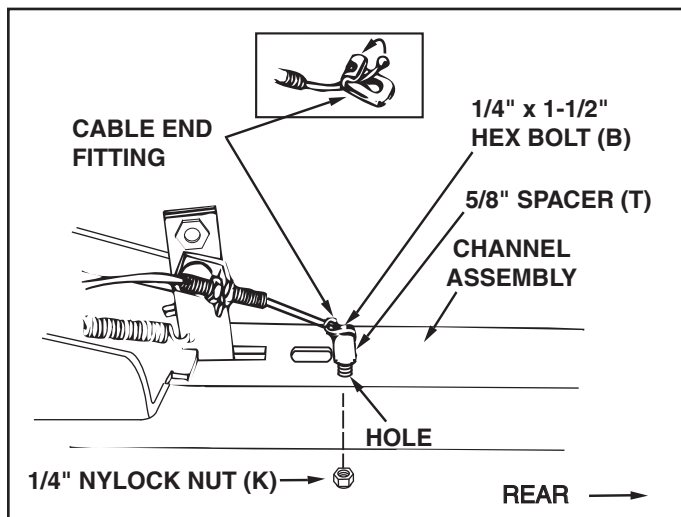

FIGURE 20 (Left Hand Side View)
STEP 6: (SEE FIGURE 20)
- Assemble 1/4" x 1-1/2" (B) hex bolt down through the cable end fitting, the 5/8" long spacer (T) and the left hand hole in the channel assembly. Secure with a 1/4" nylock nut (K). **Tighten.**